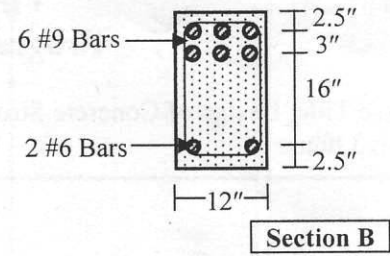

Fig. 3
- calculate the total load ( $w_u$ ) for Section B (Fig. 3) to reach its ultimate moment capacity, and